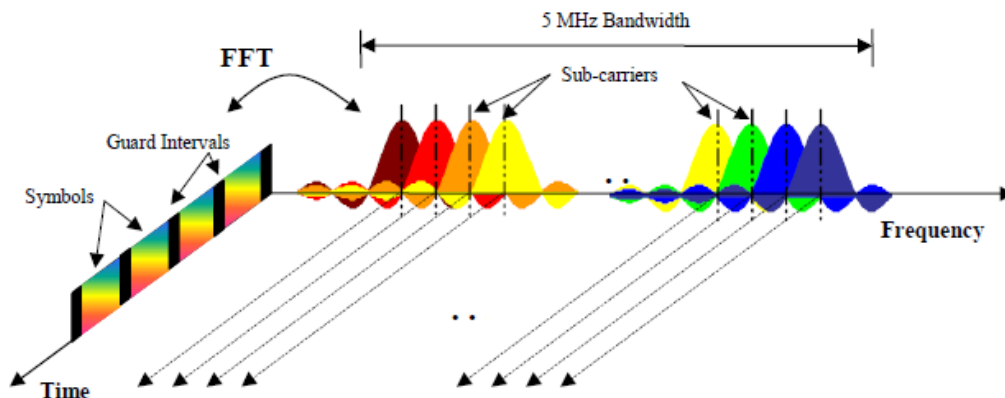

Fig. 1-1: Frequency-Time Representation of an OFDM Signal
figure 1-1 shows a representation of an OFDM signal taken from 3GPP TR 25.892 [2]. In this figure, a signal with 5 MHz bandwidth is shown, but the principle is of course the same for the other EUTRA bandwidths. Data symbols are independently modulated and transmitted over a high number of closely spaced orthogonal subcarriers. In EUTRA, downlink modulation schemes QPSK, 16QAM, and 64QAM are available.
The vector s_m is defined as the useful OFDM symbol. It is the time superposition of the N narrowband modulated subcarriers. Therefore, from a parallel stream of N sources of data, each one independently modulated, a waveform composed of N orthogonal subcarriers is obtained, with each subcarrier having the shape of a frequency sinc function (see figure 1-1).
One downlink slot consists of N_{symb}^{DL} OFDM symbols. To each symbol, a cyclic prefix (CP) is appended as guard time, compare figure 1-1. N_{symb}^{DL} depends on the cyclic prefix length. The generic frame structure with normal cyclic prefix length contains $N_{symb}^{DL} = 7$ symbols. This translates into a cyclic prefix length of $T_{CP} \approx 5.2 \mu s$ for the first symbol and $T_{CP} \approx 4.7 \mu s$ for the remaining 6 symbols. Additionally, an extended cyclic prefix is defined in order to cover large cell scenarios with higher delay spread and MBMS transmission. The generic frame structure with extended cyclic prefix of $T_{CP-E} \approx 16.7 \mu s$ contains $N_{symb}^{DL} = 6$ OFDM symbols (subcarrier spacing 15 kHz). The generic frame structure with extended cyclic prefix